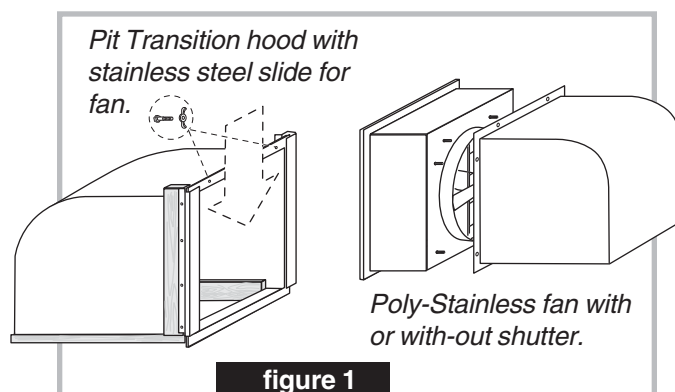

figure 1
- 3) After pit hood is secured to pit cover, **Slide fan into stainless steel slide brackets** as shown (figure 1)